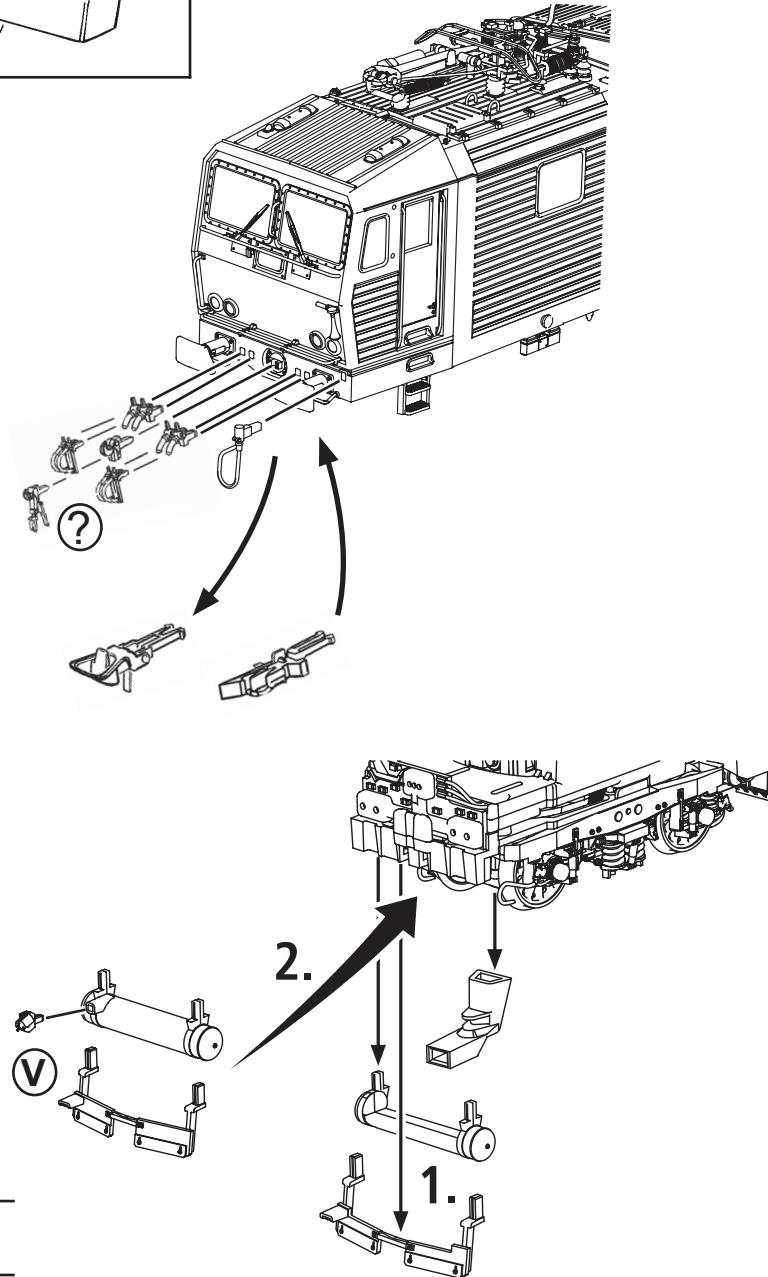

Fig. 3
**2. Lubrication:** Apply **tiny oil drops** to spots marked in fig. 7. Prior to lubrication dismantle locomotive (fig. 3). We recommend using item no. **10906, ROCO oiler**. For lubrication the gearparts (e.g. cogwheels, worm) we would recommend our ROCO **special grease** (item no. **10905**). **Attention:** Please do not oil these parts when using our grease.
**4. Motor Changing:** First remove loco body (fig. 3), and then the motor (fig. 5).
viz } Fig.3 + Fig.5
viz } Fig.3
viz } Fig. 3